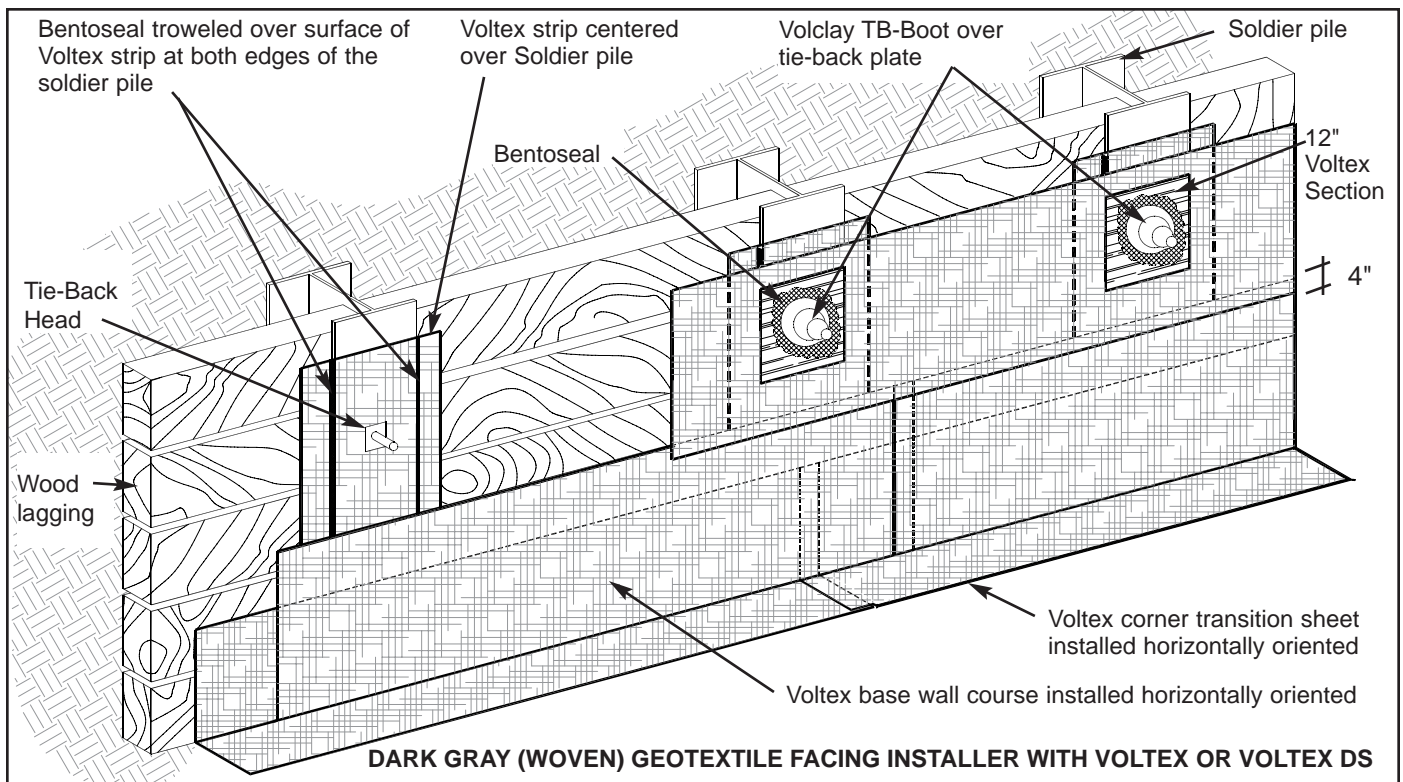

Figure 2.9 - Voltex installation over soldier pile and wood lagging retaining wall prior to cast-in-place concrete wall.
**Soldier Pile Stripping:** Install a strip of Voltex over all soldier piles with raised lagging hanger bolts, form tie rods, or other irregular surface. Voltex strip should extend a minimum 6" (150 mm) to both sides of the piling. Apply Bentoseal 1/4" x 2" (6mm x 50 mm) to Voltex strip surface along both edges of each soldier pile (Figure 2.9).